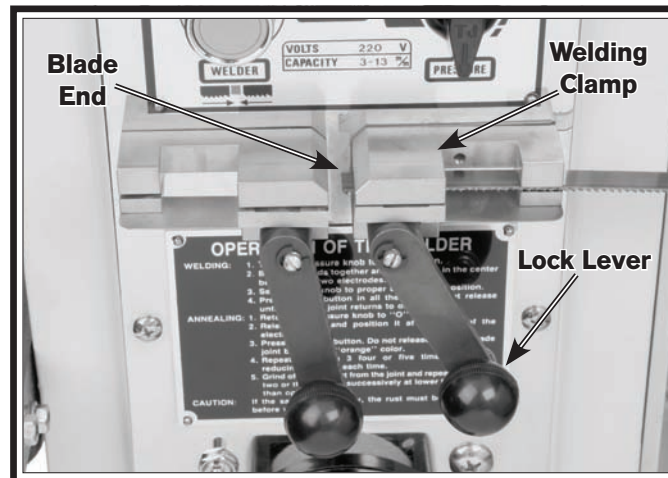

Figure 31. Blade end properly position in welding clamp and locked in place.
- Position the back of one blade end evenly against the back of the welding clamp so that the end is midway between the two clamps, then rotate the lock lever as far up as possible to hold the blade end in place (see **Figure 31**).